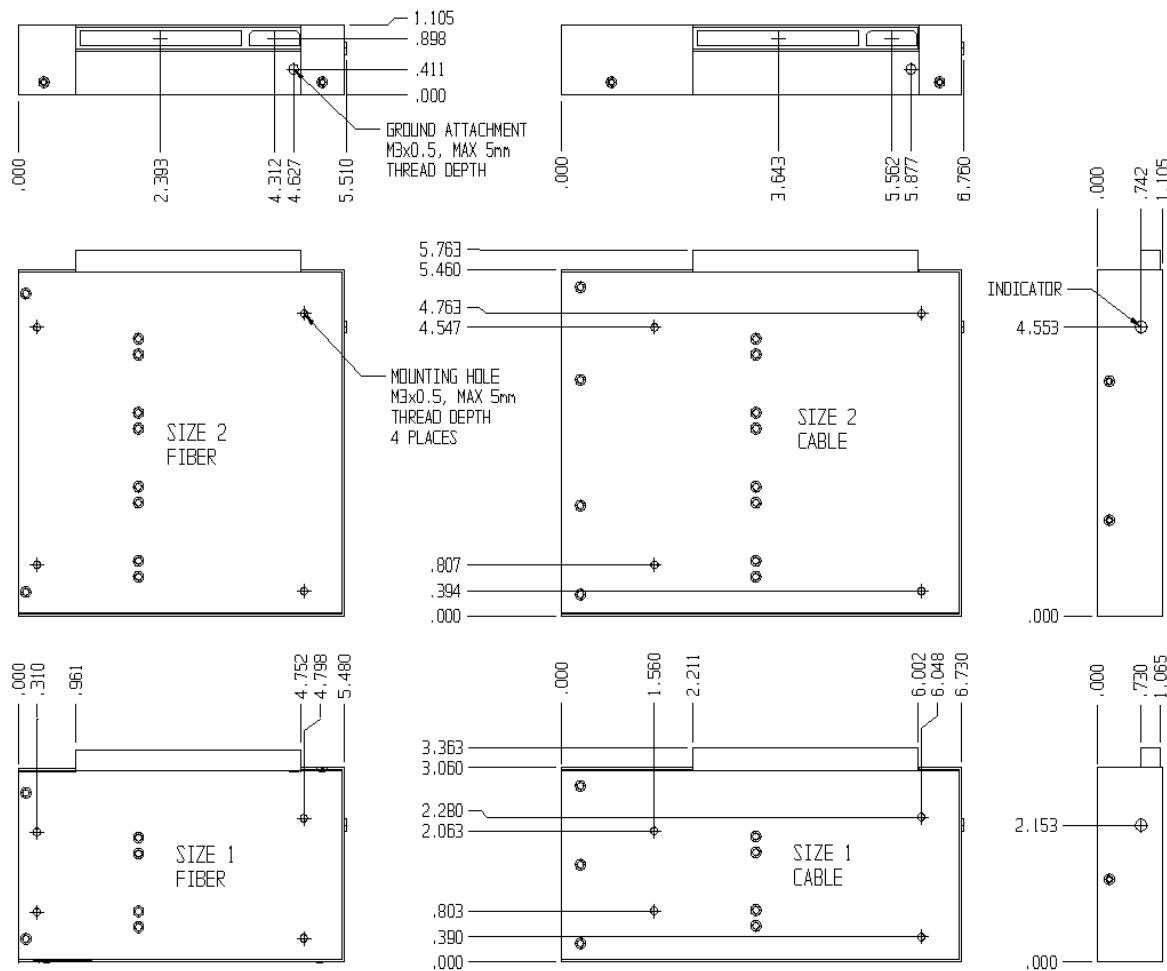

Figure 4: Additional Dimensions
2. Connect the ground lug to chassis ground. An 8 mm depth M3 screw with flat and lock washers is recommended (5 mm maximum thread depth in unit). See Figure 4, showing location of mounting holes for both package sizes (note the additional length of package for cable version of switches).